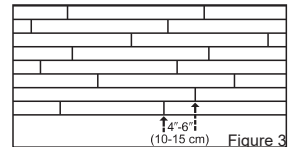

Figure 3
Tramex Concrete Moisture Encounter Meter (Figure 2): Moisture readings should not exceed 4.5 on the upper scale. (Figure 3 shows an unacceptable reading of over 4.5) Concrete Moisture Meters give qualitative reading results—not quantitative ones. These results are a quick way to determine if further testing is required.
- Be attentive to staggering the ends of the boards at least 4"-6" (10-15 cm) when possible, in adjacent rows (Figure 3). This will help ensure a more favorable overall appearance of the floor.
- End-joints of adjacent rows should be staggered a minimum of 4'-6" (10-15 cm) when possible, to ensure a more favorable overall appearance (Figure 3).
- Check for a tight fit between all edges and ends of each plank. End-joints of adjacent rows should be staggered 4'-6" (10-15 cm) when possible, to ensure a more favorable overall appearance (Figure 3).